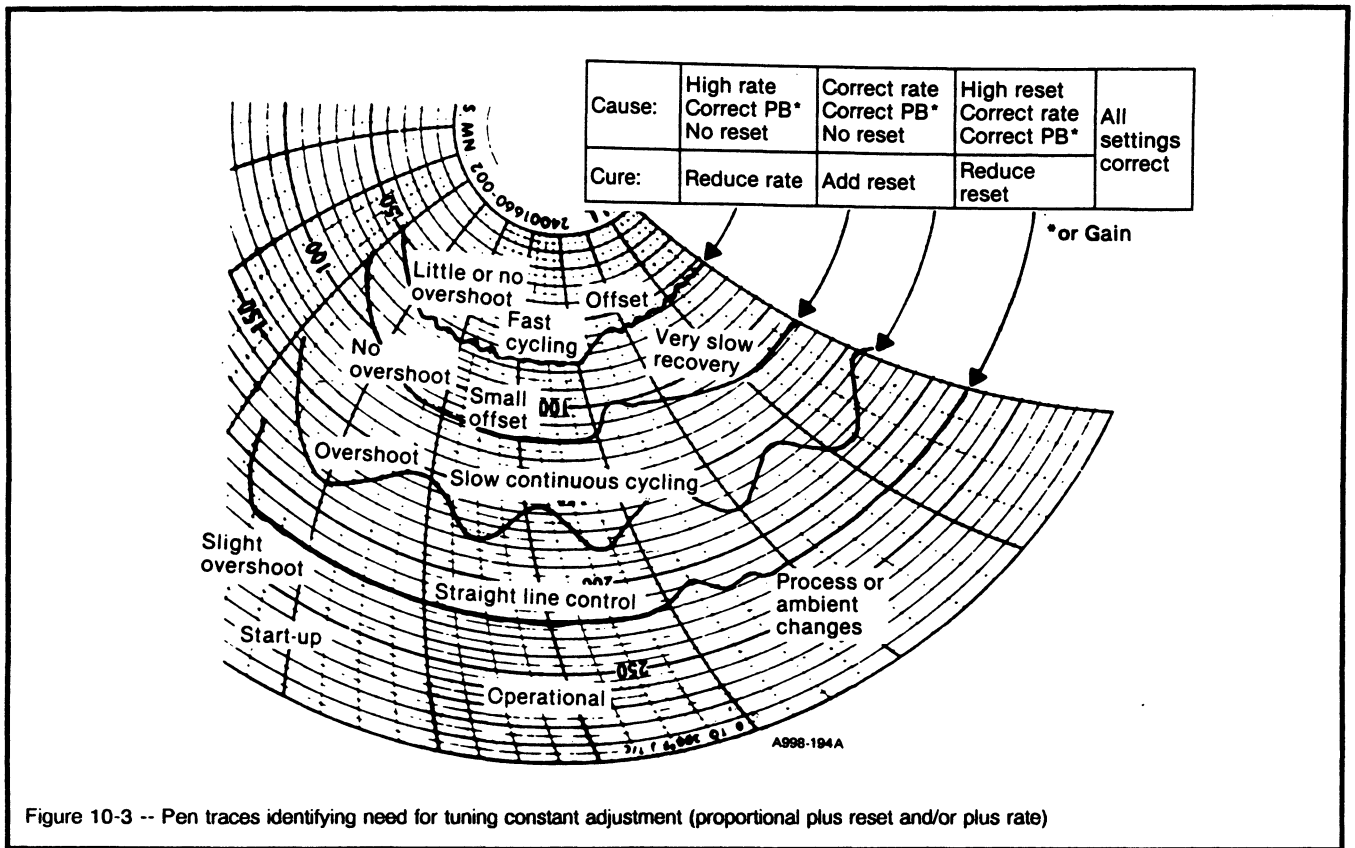

Figure 10-3 -- Pen traces identifying need for tuning constant adjustment (proportional plus reset and/or plus rate)
- If you are using a proportional controller plus reset, and/or plus rate, compare the pen traces to those in Figure 10-3 to determine if any further fine-tuning is required.